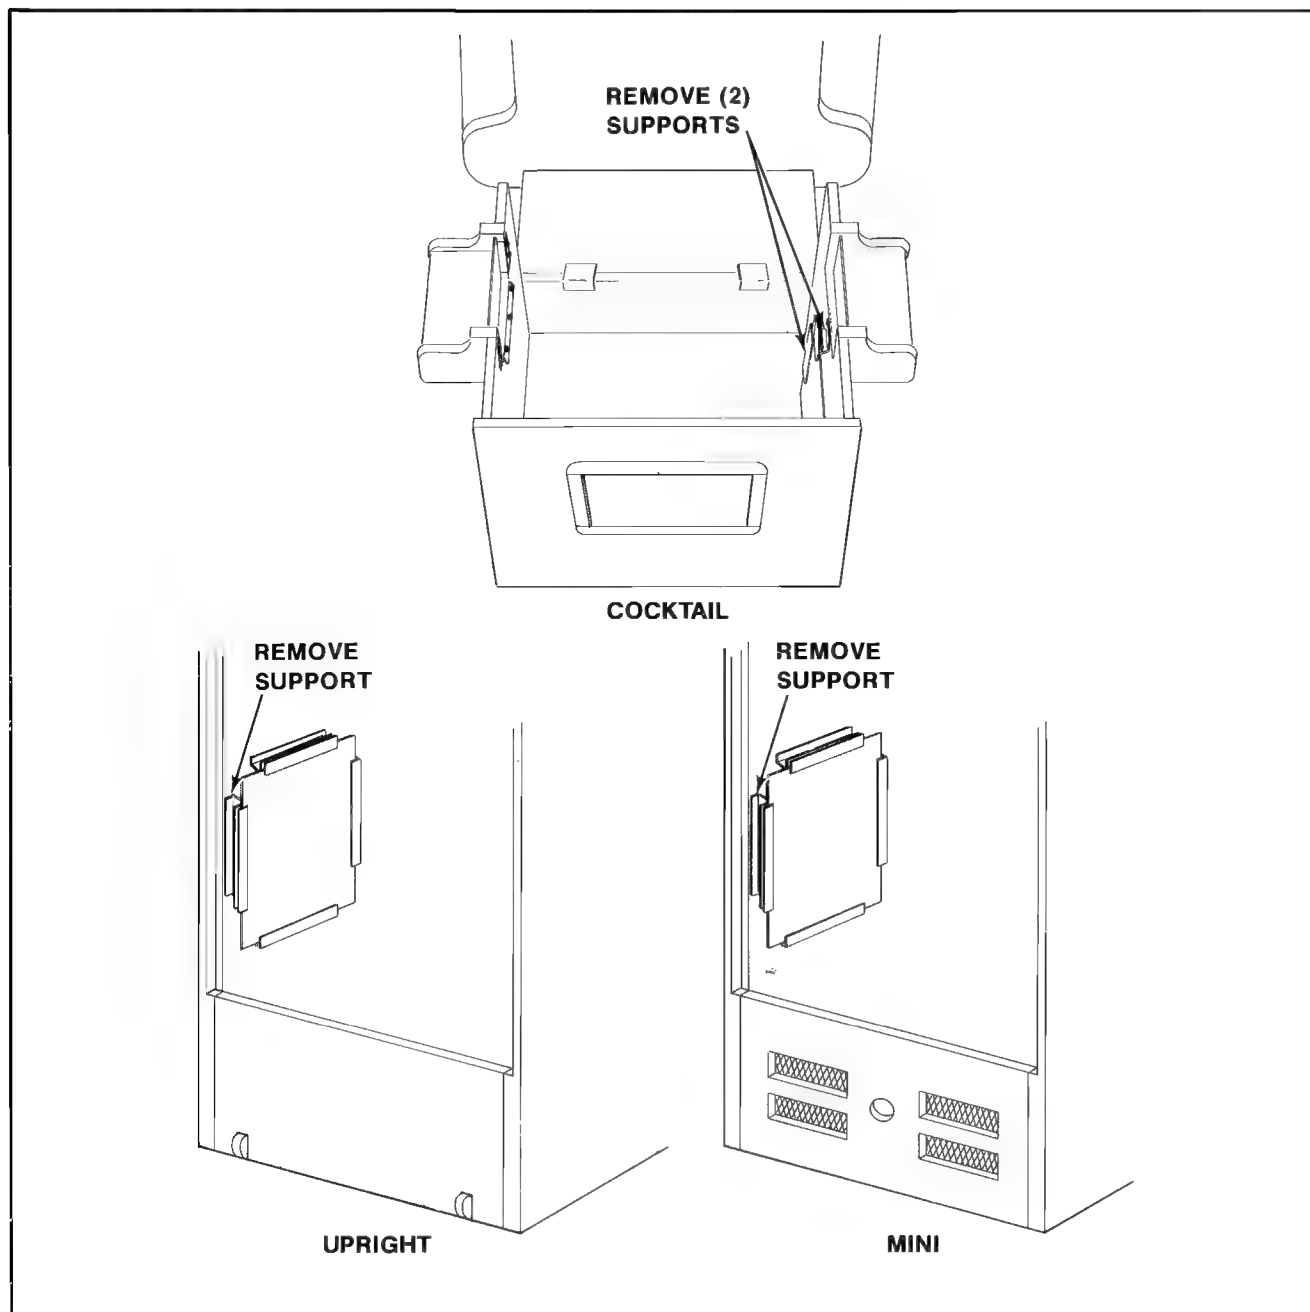

Figure 4-12 Removing P.C.B.s
1. UPRIGHT MODEL: See Figure 4-12.
- ☐ Disconnect the linear power supply board from all its cabling, remove the P.C.B. supports indicated in Figure 4-12, and slide the linear power supply board out the back of the cabinet.
2. MINI MODEL: See Figure 4-12.
3. COCKTAIL TABLE MODEL: See Figure 4-12.
- ☐ Remove the linear power supply board. See Figure 4-12.